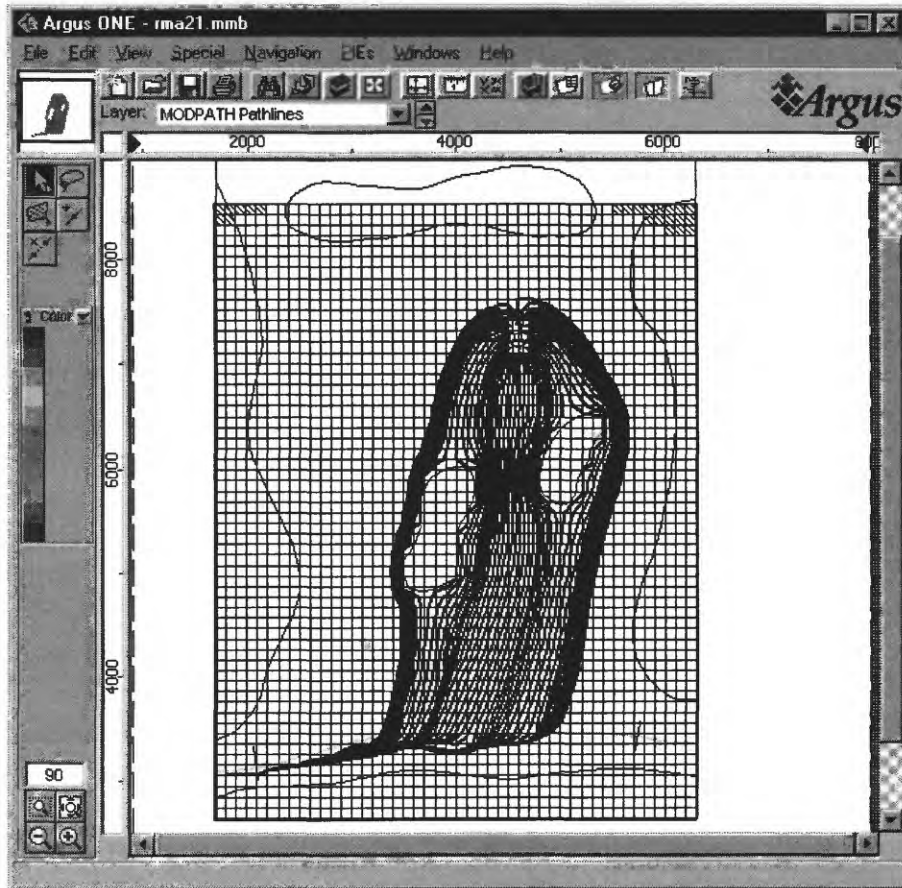

Figure 29. MODPATH Pathlines.
22. To plot the results from MODPATH, select **PIEs|MODPATH Post Processing**. Click on the **Read Data** button and select a pathline file created by MODPATH. It will have the extension ".lin". The data will be read and plotted in the dialog box. If the file is large, this may take a while and a progress bar will be displayed. To import this data into Argus ONE™, click the **OK** button. Another progress bar will be displayed as the data are imported into Argus ONE™. The progress bar may appear somewhat "jerky" in the way it progresses and Argus ONE™ may redraw several times during the process of drawing the contours. This is normal. It is possible to speed up the process of exporting contours by making sure that the redraw process is fast. The redraw process is faster if only a small portion of the model is displayed, no cells are colored, and layers with lots of contours are hidden. The pathlines will be plotted on a layer named **MODPATH Pathlines** as illustrated in figure 29. Each contour will have four parameters: **Starting Layer**, **Starting Time**, **Ending Layer**, and **Ending Time**.